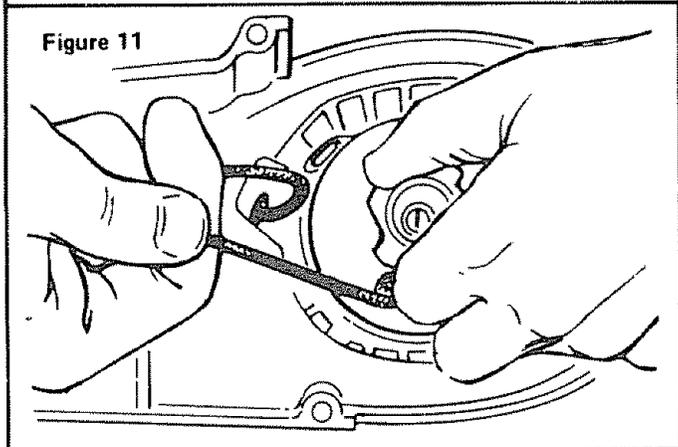

Figure 11
7. Pull about 6 inches out as shown in Figure 11 and set the rope in the pulley slot.